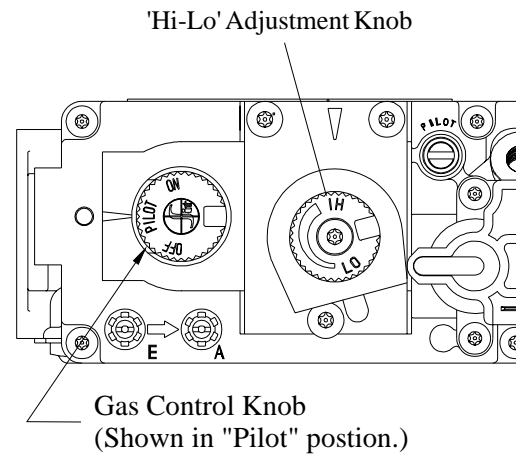

Figure 26. 'Hi-Lo' Adjustment on the ME38-DV-2's gas valve.
- Have the fireplace installation inspected yearly, including a visual check of the vent system, the burner and the pilot flame. For your convenience a 1/8" manifold pressure tap is supplied on the gas valve for a test gauge connection. See Figure 26.